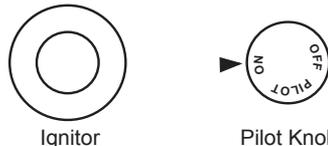

Figure 22 - Pilot Knob In The ON Position
6. Press in pilot knob and turn control knob counterclockwise  to the PILOT position. Keep pilot knob pressed in for five (5) seconds (see Figure 22).